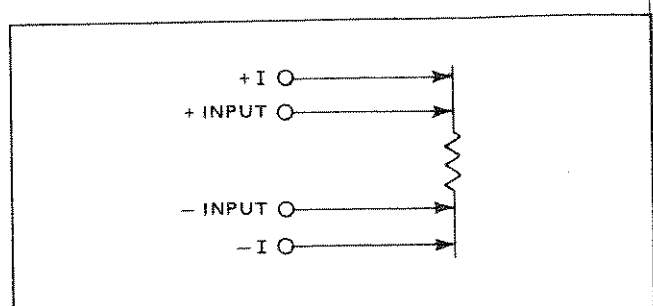

Figure 5.7 - 4-Wire Connections
b. Connect input with 4-wire configuration (figure 5.7) and complete the adjustments of the low ranges.